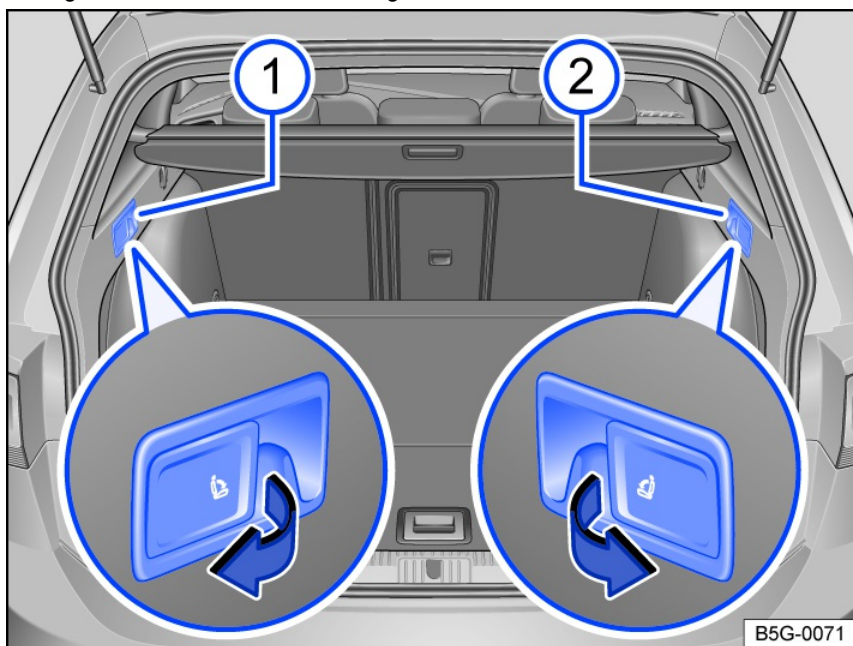

Fig. 80 In the luggage compartment: Remote unlocking lever for the left ① and right ② part of the rear seat backrest.
- ① Release button for the *left* part of the rear seat backrest.
- ② Release button for the *right* part of the rear seat backrest.
- Pull the remote release lever fig. 80 for the backrest section to be folded forwards.